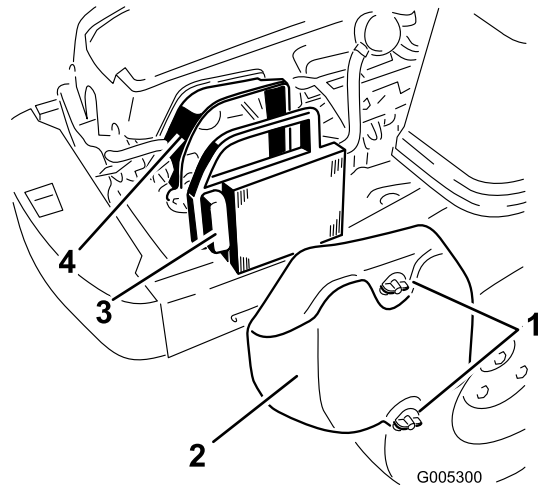

Figure 32
1. Remove the air cleaner cover (Figure 32).
2. Remove the air cleaner element with the integral rubber seal (Figure 32).
- Install the air cleaner element with the pleated side “out” and seat the rubber seal onto the edges of the air cleaner base (Figure 32).
- Reinstall the air cleaner cover and secure with the two knobs (Figure 32).